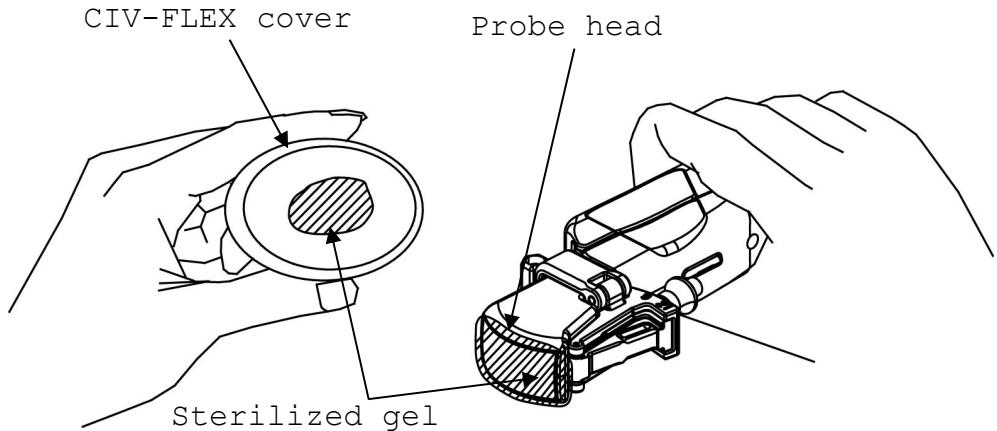

Fig.12 Placing the gel
- 1) Place an appropriate amount of gel inside the cover and/or on the Probe head. (See Fig.12)